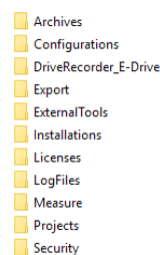

Fig. 1
First of all you have to configure your (S)FTP server and create a folder with the serial number of your ES820 (available on the front panel of the case) and replicate the folder structure of the DR Configurator Tool (see Fig.1).